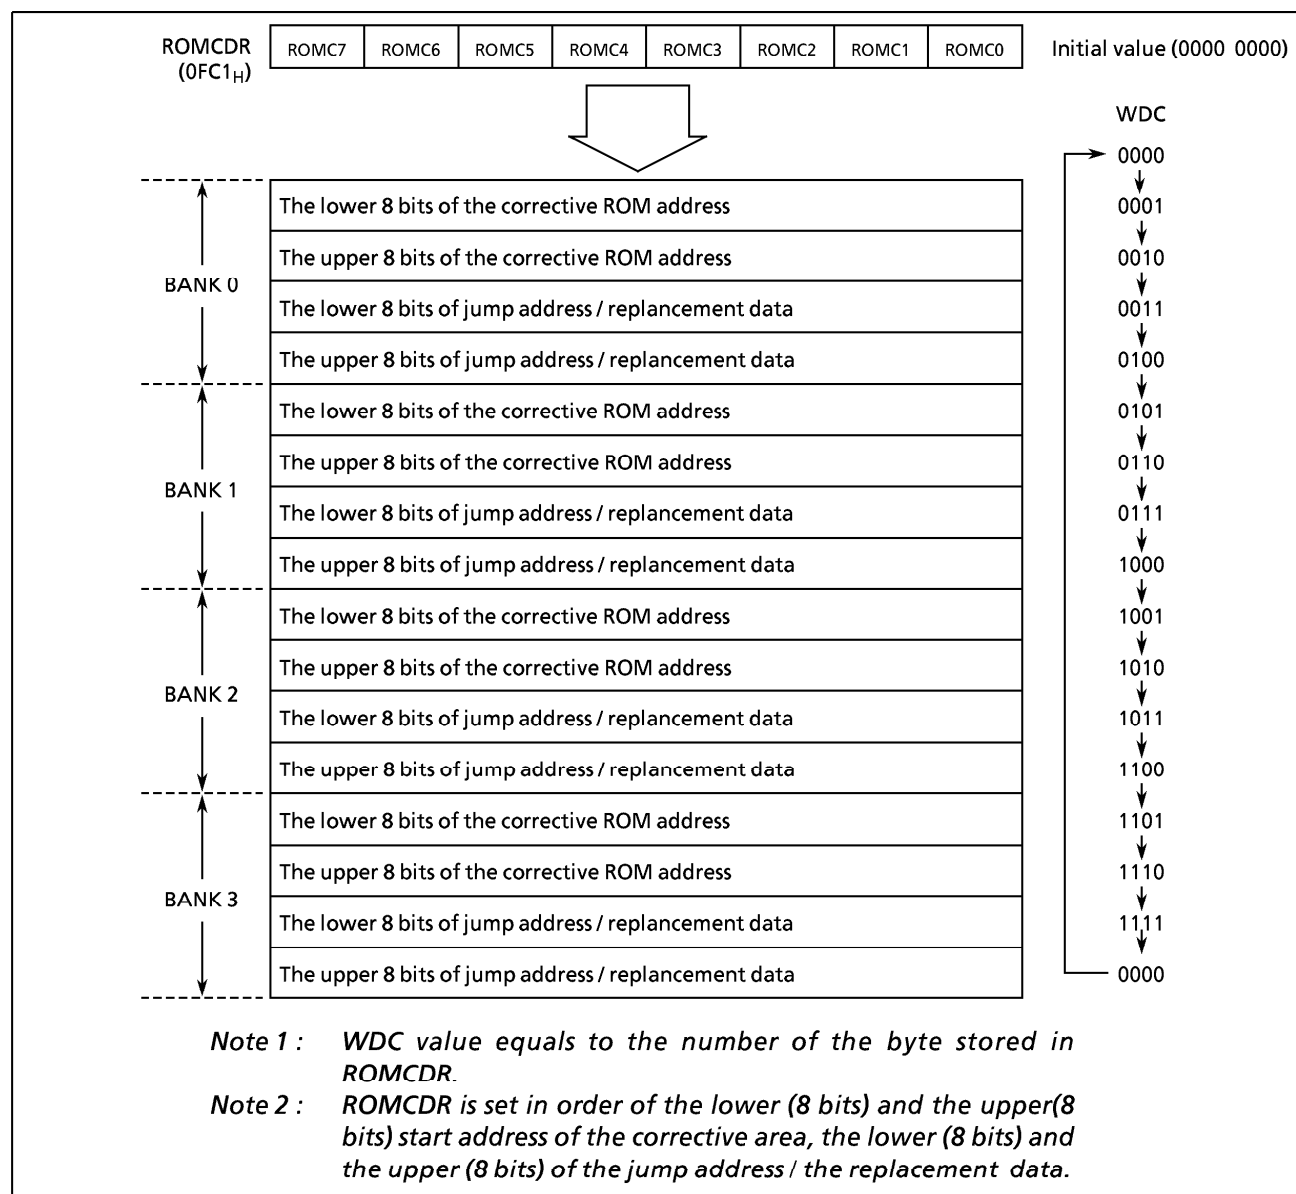

Figure 1-33. Banks and WDC Value of the Program Corrective Data Register
- (1) The ROM corrective data register writing
- The ROM corrective data register has four banks corresponding to four independent locations to patch. The write data counter (WDC) points each bank to set. (Figure 1-33.)